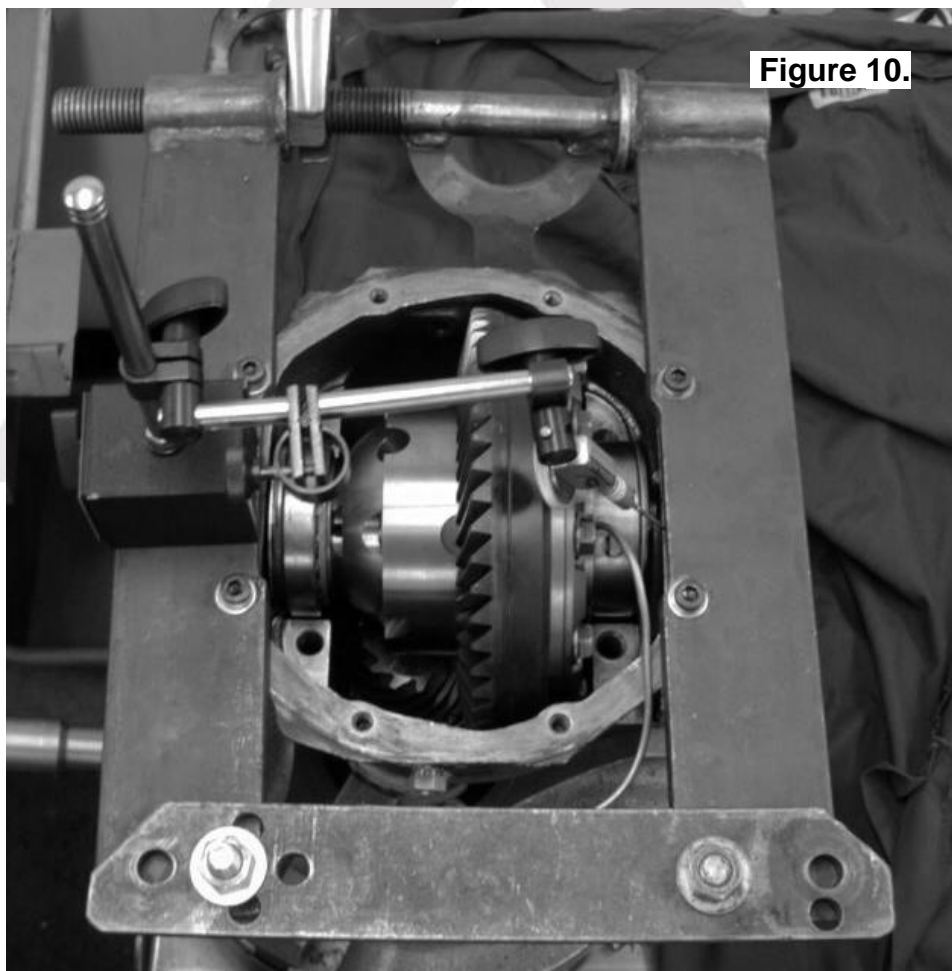

Figure 10.
- Set up a spreader and a dial indicator as shown in Fig 10.
- Carefully spread the housing (Fig 10.) just enough to install the differential carrier (Refer to your vehicle's service manual).